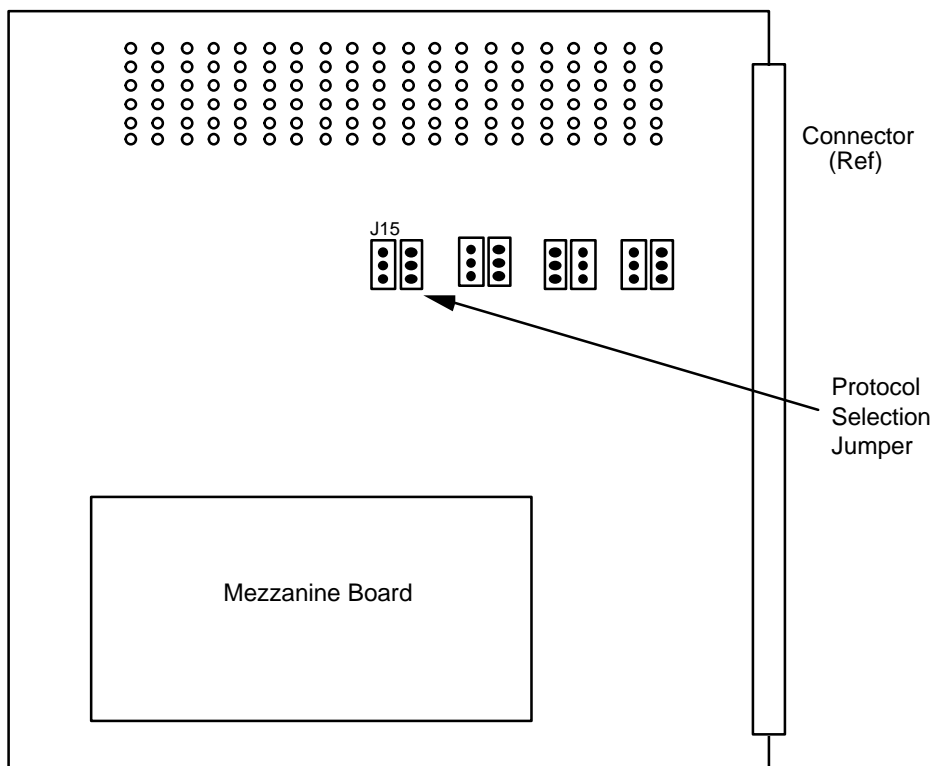

**Figure 1. Model 3000 Protocol Selection Jumpers**
Protocol selection is accomplished by jumpers on the Control Processor Board (see Figure 1). To set up the Model 3000 for the appropriate protocol, perform the following:
2. Referring to Figure 1, jumper the upper two pins of both EDITOR jumpers for RS-422 or the lower two pins for RS-232 Protocol.